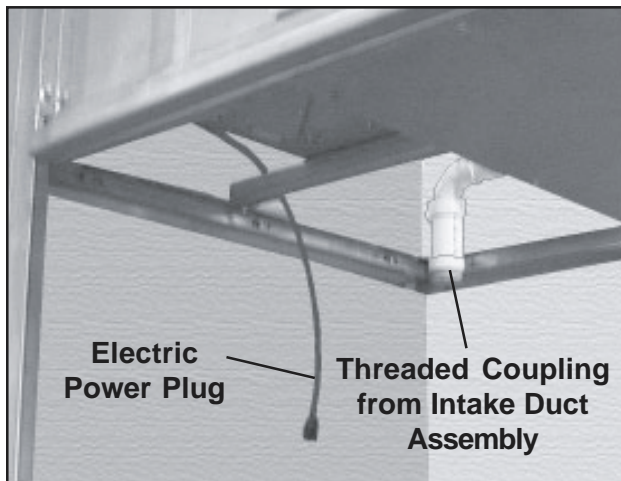

Figure 35. Power Plug & Intake Duct Coupling
1. Plug the electric power cord (Figure 35) into the outlet in the cubicle wall. **Note:** If the cubicle includes the lighting option, plug the power cord for the lights into the outlet also.